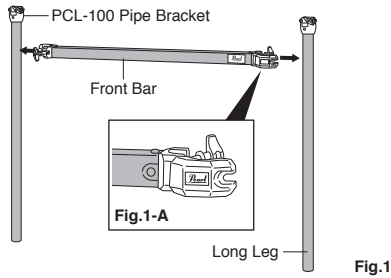
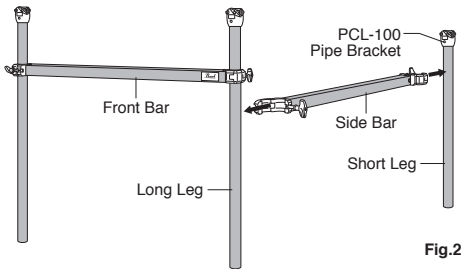
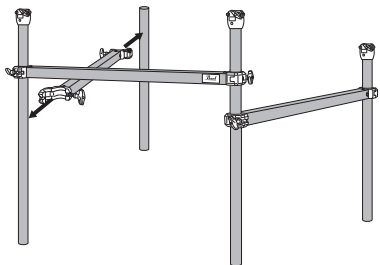

Fig.1
Fig.2
Fig.3
1. Locate the two "long" legs (each has a PCL-100 Pipe Bracket attached) and connect one to each end of the Front Bar (it has a Pearl logo badge) as shown (Fig. 1). Orient the Front Bar so that the "Pearl" logo on the clamps is facing right-side up for optimum stability (Fig. 1-A).
2. Connect a Side Bar to the left "long" leg as shown (Fig. 2) with the "Pearl" logo on the clamps facing right-side up for optimum stability (Fig. 1-A). Locate the "short" leg with a PCL-100 Pipe Bracket attached and connect it to the other end of the Side Bar as shown.
3. Connect the last Side Bar to the right "long" leg as shown (Fig. 3) with the "Pearl" logo on the clamps facing right-side up for optimum stability (Fig. 1-A). Connect the remaining "short" leg to the other end of the Side Bar as shown.